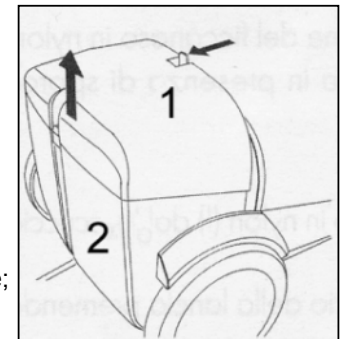

Fig. 12
- Remove the water tank and cover (1+2) from the back of the unit. Fig 12.